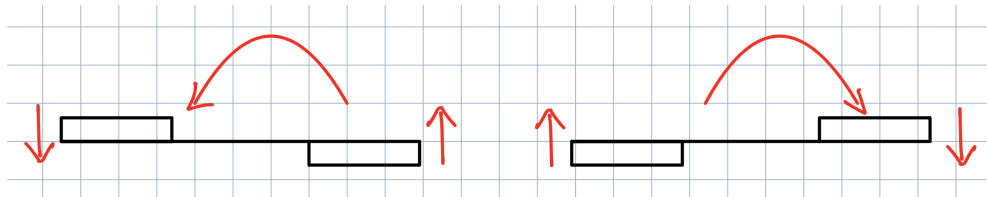

Figure 2: The relation between aileron positions and the aircraft roll direction.
- (1) **Ailerons:** The ailerons are located on the *outside* portion of each wing. It is used to control the aircraft in the **roll** axis. The corresponding rolling direction of the aircraft relative to the ailerons' position are shown in Figure 2.